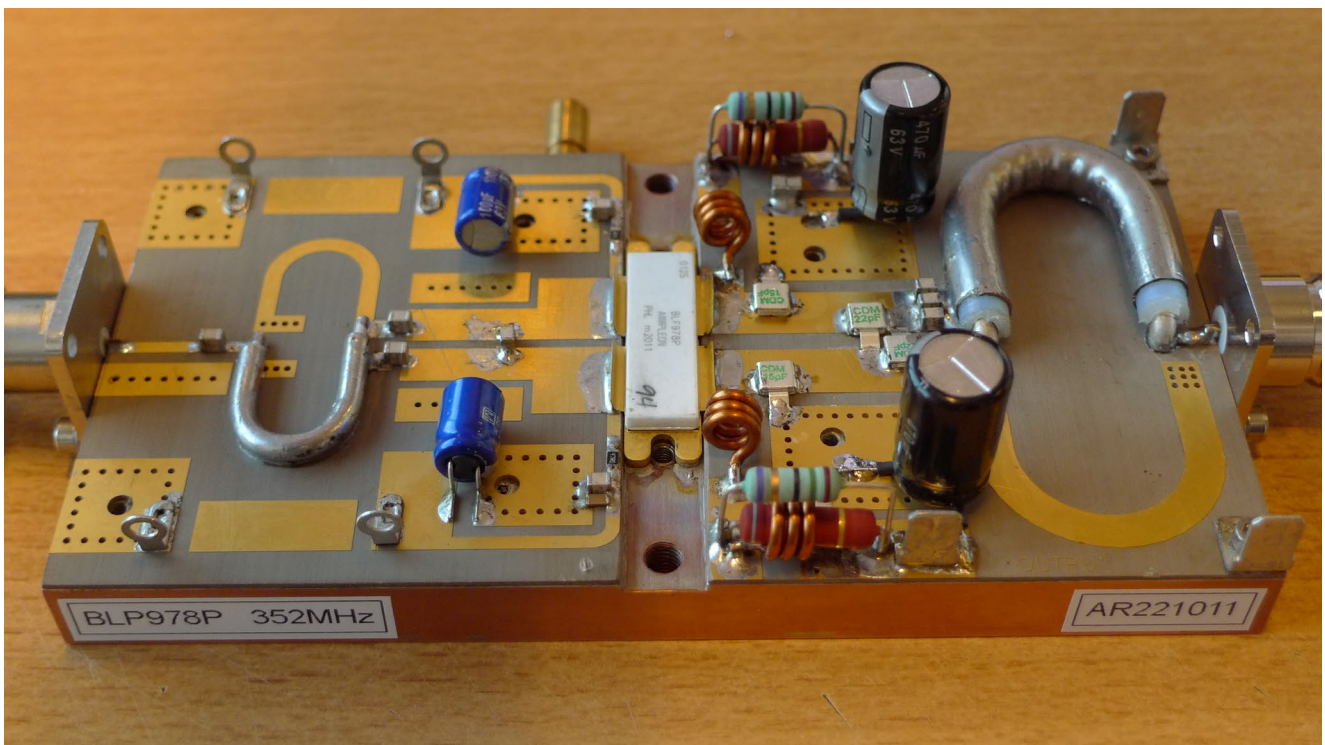

Figure 5 Side View Picture Demo Board
- Figure 5 Side View Picture.....Demo Board 8